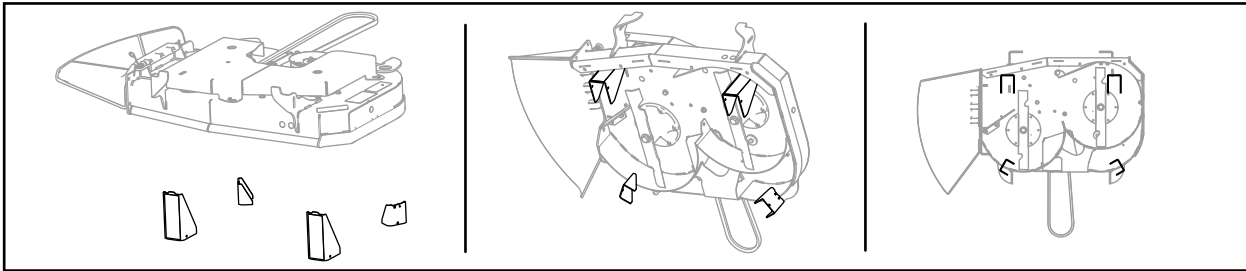
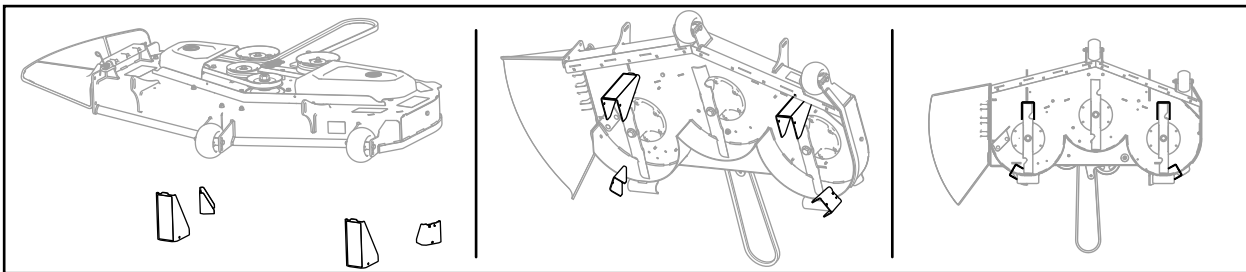

Figure 2
Figure 3
3. Place the height-of-cut brackets below the mower deck so that the deck shell rests on the brackets when you lower the deck; refer to Figure 2 and Figure 3 for proper orientation.